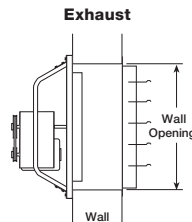
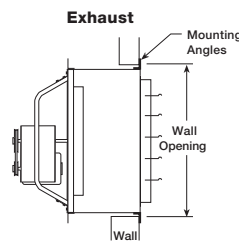
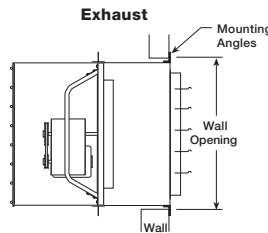
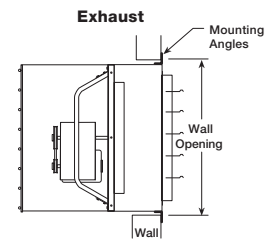

Figure 2 — Direct to Wall Installation
Figure 3 — Wall Collar Installation
Figure 4 — Wall Collar & Guard Installation
Figure 5 — Wall Housing Installation
1. Move fan to the desired location and determine the method by which the fan is to be mounted as shown in Figures 2, 3, 4, and 5. Optional wall collar (Figure 3), wall collar and guard (Figure 4) or wall housing (Figure 5) provide a convenient means of mounting sidewall fans.
3. Figure 2 shows the recommended wall opening for direct to wall installations.
4. Figure 3 shows the wall opening required for installations using a wall collar.
5. Figure 4 shows the wall opening (W.O.) required for installation with a wall collar and a guard.
6. Figure 5 shows the wall opening required for installation with a wall housing.